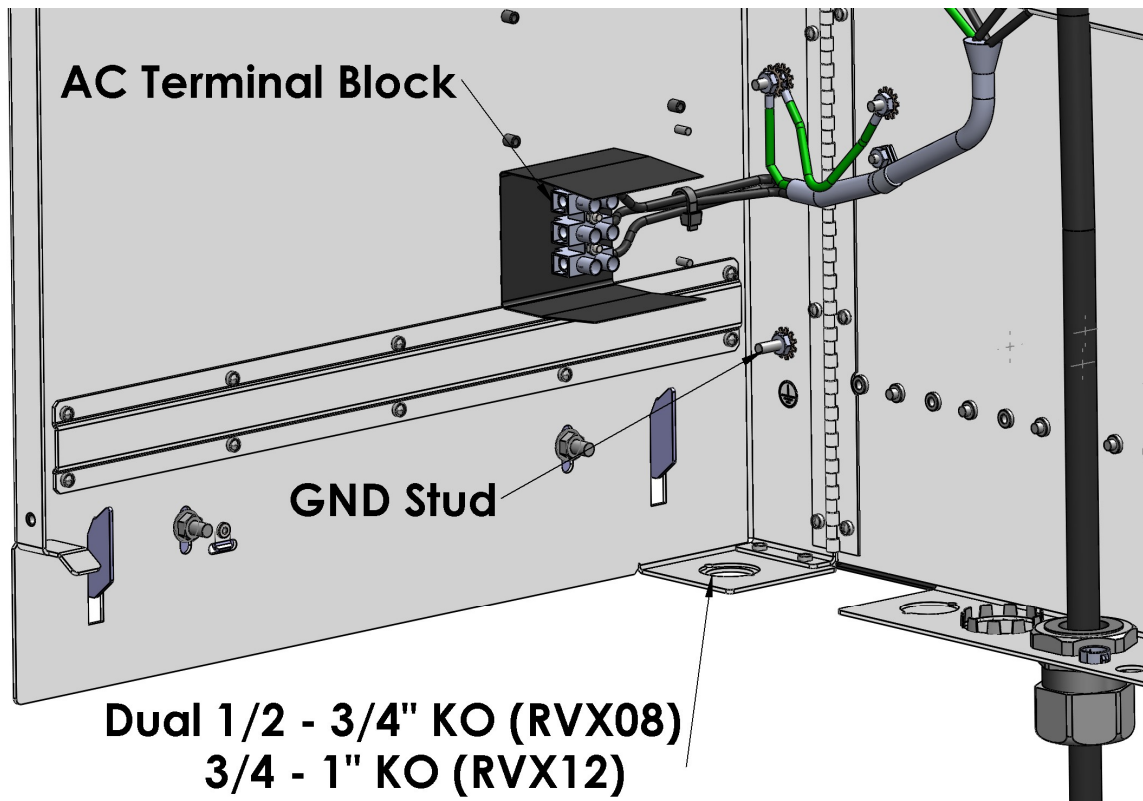

Figure 27: RVX08/RVH08, RVX12/RVH12 KO location
5. Crimp a #10 ring tongue terminal to the ground (**GND**) wire and connect it to the GND stud (Figure 27). **Tighten the nut to 15 in-lb +/- 2 in-lb.**